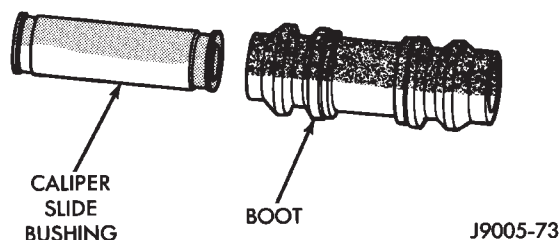

Fig. 50 Mounting Bolt Bushing And Boot
(7) Remove caliper mounting bolt bushings and boots (Fig. 50).